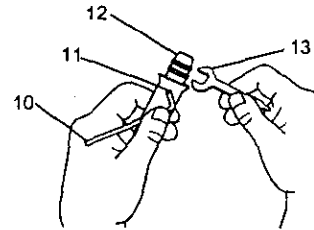

Fig. 4
- To insert an accessory into the flex shaft collet, rotate collet nut (12) until hole in shaft aligns with hole in flex shaft collar (11) (see Fig. 4). Insert Allen key (10) into aligned holes and use the small flat wrench supplied (13) to turn collet nut counter clockwise.